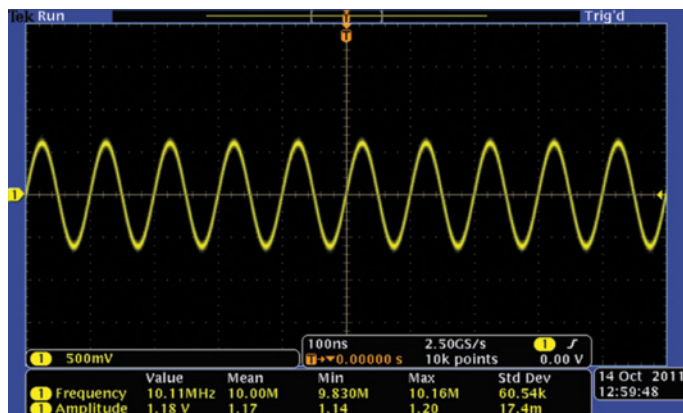

Figure 3. Continuous Wave (CW) signal with constant amplitude and frequency.
Most power meters are capable of delivering accurate average power measurements on continuous wave (CW) signals. These common signals are of constant amplitude and frequency. They are relatively uncomplicated and the capability of performing average power measurements is common to most USB power sensors. Figure 3 shows an example of a CW signal. All Tektronix sensors have the capability of accurately measuring average power. Though all USB power sensors are capable of measuring average power, there is a subset whose average power measurements are referred to as "true average" or "true RMS".